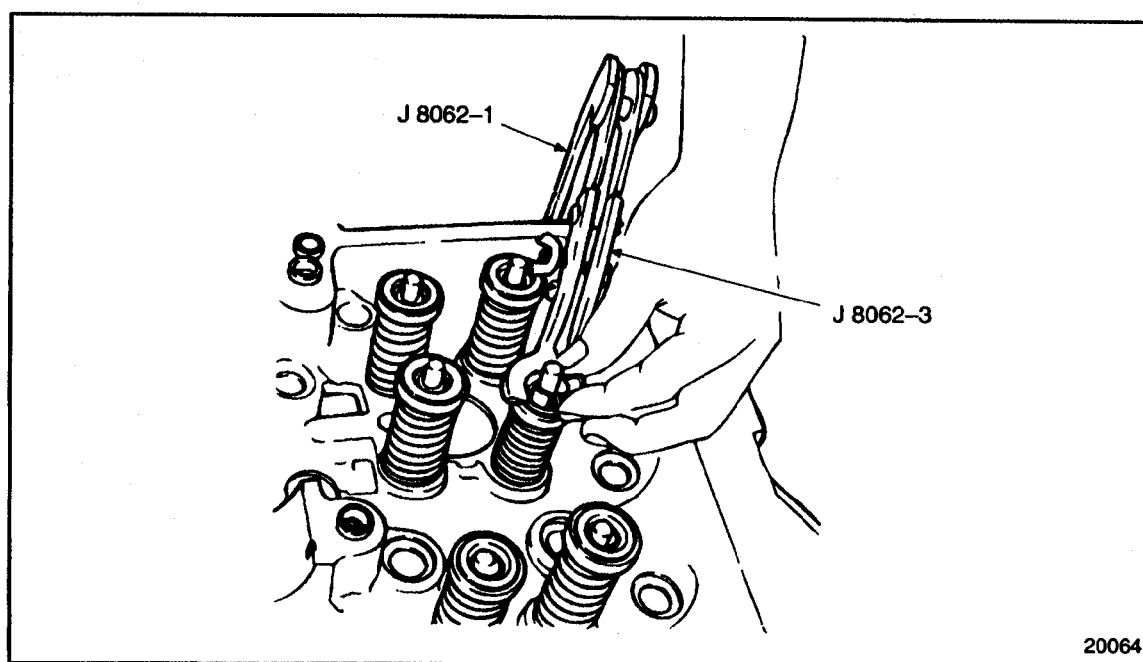

Figure 1-69 **Compressing Valve Spring**
7. Remove the valve locks using valve spring compressor, J 8062, with jaws, J 8062-3 installed, to compress each valve spring. See Figure 1-69.